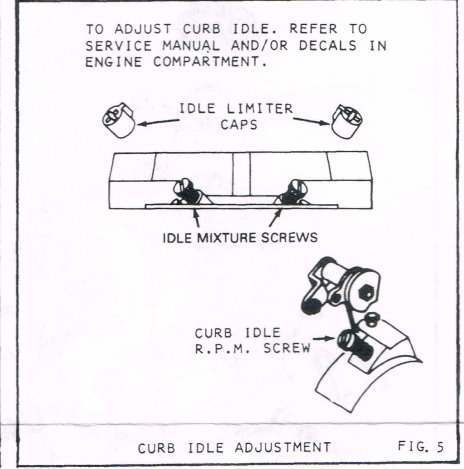

FIG. 5
6. FAST IDLE ADJUSTMENT: PLACE FAST IDLE SCREW ON HIGH STEP OF FAST IDLE CAM AND SET TO 1600-1700 R.P.M. (SEE FIG. 5).
FAST IDLE ADJUSTMENT Fig.5